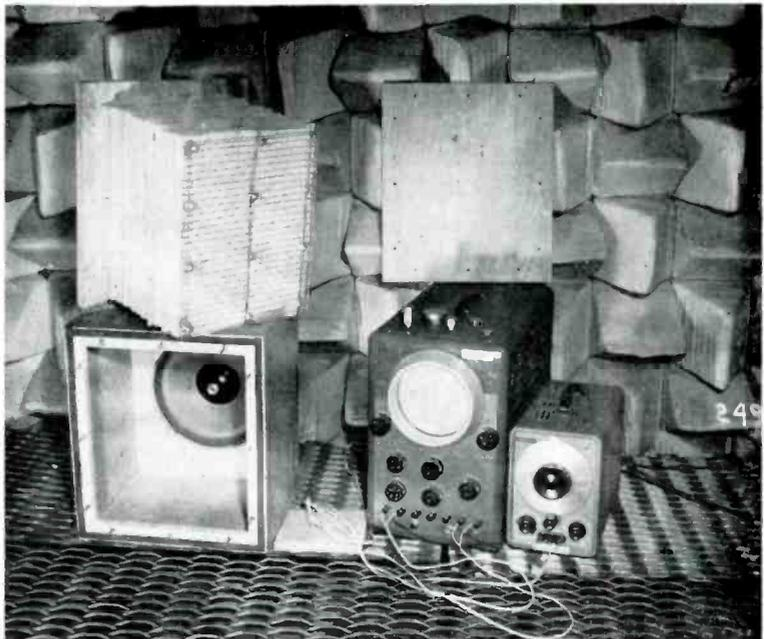

Fig. 4. Experimental apparatus showing inside of enclosure, placement of an additional mass, and the framework for holding the fiberglass stuffing.
The circuit of (B) is a two-degree-of-freedom system and solution of the equations governing it are, at best, tedious. It was, therefore, expedient to impose physically a special condition which reduced the circuit to that of (C) in Fig. 3, a simple single-degree-of-freedom system. The layers of fiberglass used in the experiment were suspended individually in a framework of heavy-gauge wire mesh as seen in Fig. 4. This has the effect of making C_f very low, thus stiffening the entire bulk of fiberglass and substantially preventing its motion relative to the enclosure. The